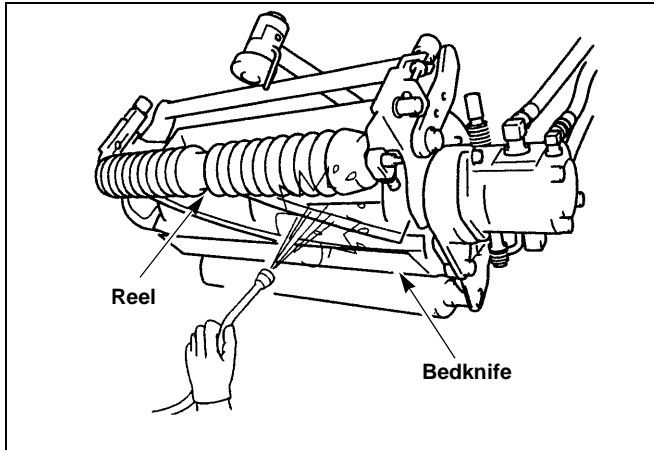

Figure 4-62
15. With the cutting units lowered to the ground and running in the backlapping direction at low idle, use a water hose to remove all lapping compound on the reel, bedknife and cutting unit assembly components. Figure 4-62